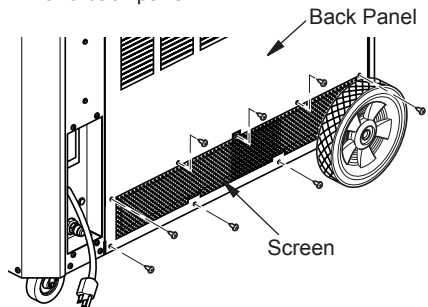

Figure 12 - Back Panel and Screen
1. Remove all visible screws from lower section of back panel and screen (see Figure 12). Pull back panel out to gain access to screen. Push screen up and over flange, then slide out.